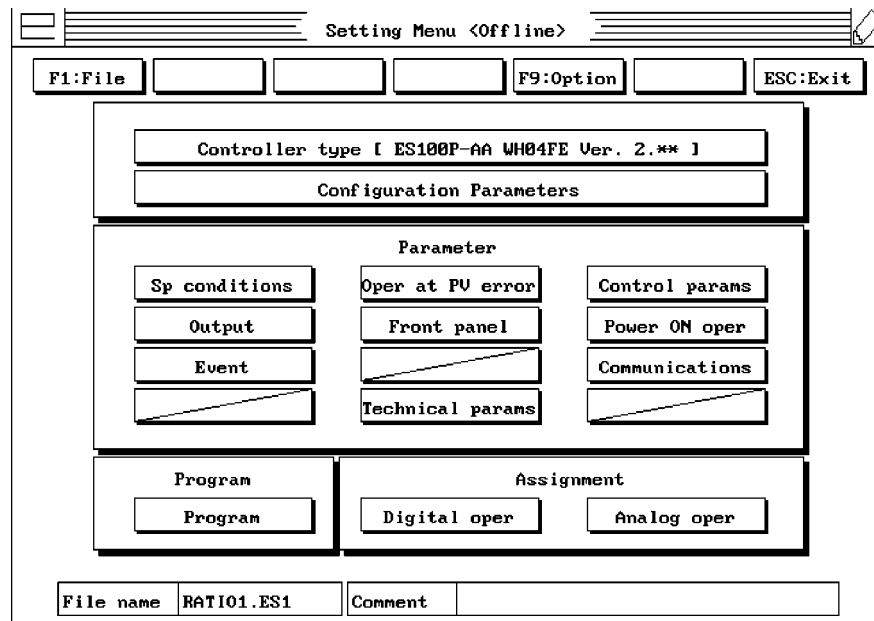

Figure 7
1. From the **Setting menu <offline>** menu, select **Analog Oper** (Figure 7).